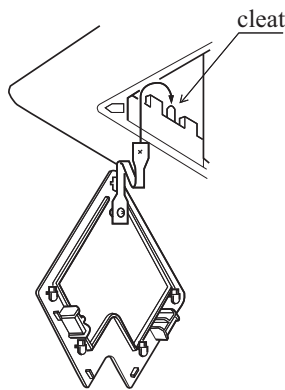

Fig.6
(2) For Model AB184-484FCAHA units, the angle covers should be mounted on the angles.
- ϕ Tie the thread of the angle cover onto the cleat on the decorated board as shown in Fig. 6.